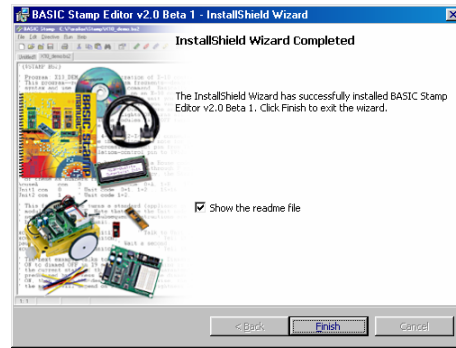

Figure 1-21
- ✓ When the InstallShield Wizard window tells you “InstallShield Wizard Completed”, as shown in Figure 1-21, click *Finish*.